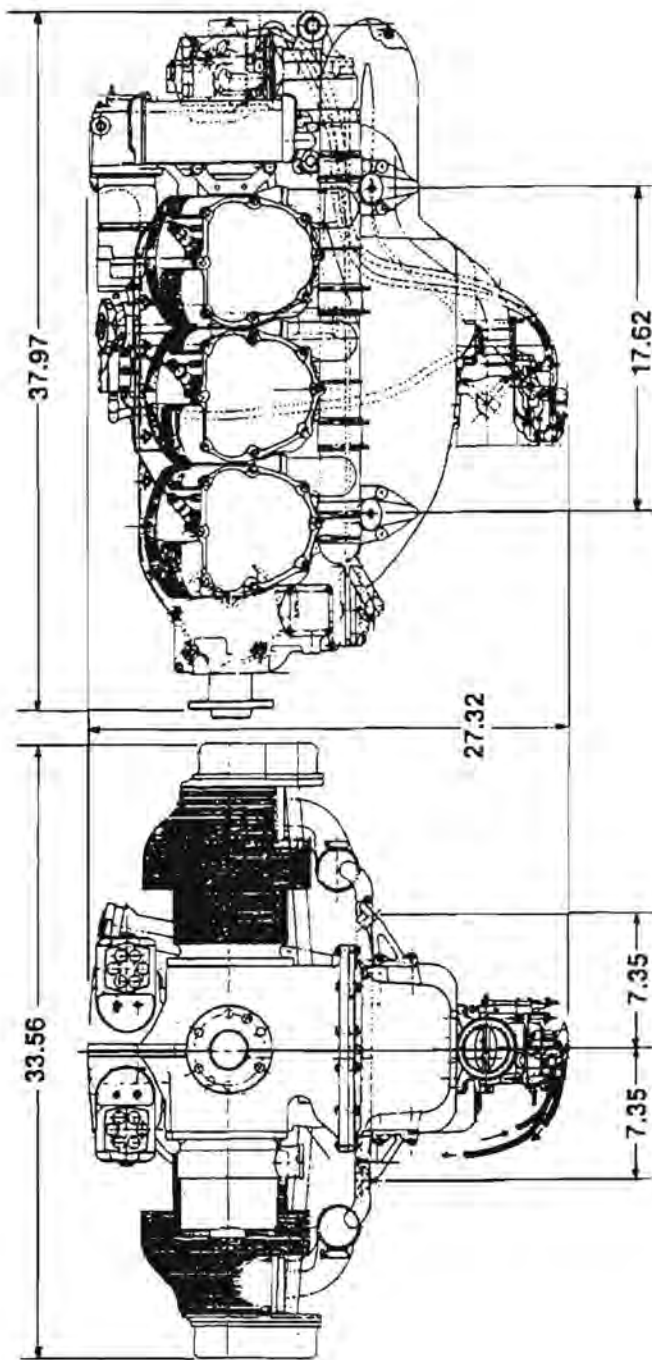

FIGURE 6-10-01. INSTALLATION DRAWING IO-520-B,BA,BB
**6-10-02 ENGINE INSTALLATION INSTRUCTIONS (See Figure 6-10-01 thru 6-10-03)**